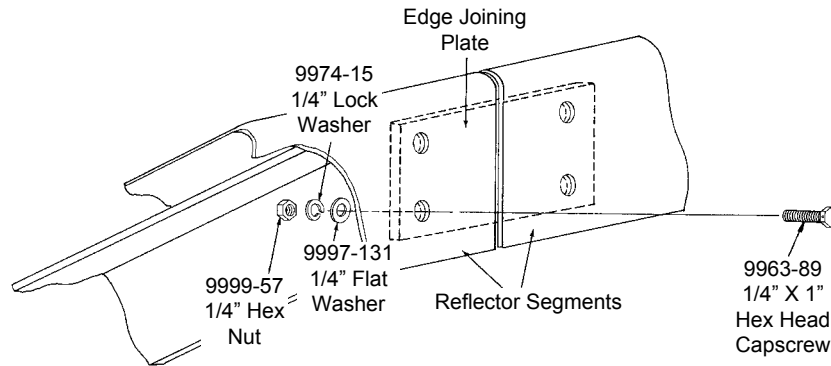

Figure 4-6
4.6 Refer to Figure 4-6. Install supplied edge joining plates across panel segment seams on inside of reflector rim at all 16 locations using indicated hardware. Finger tighten hardware only. Finger tighten hardware only.